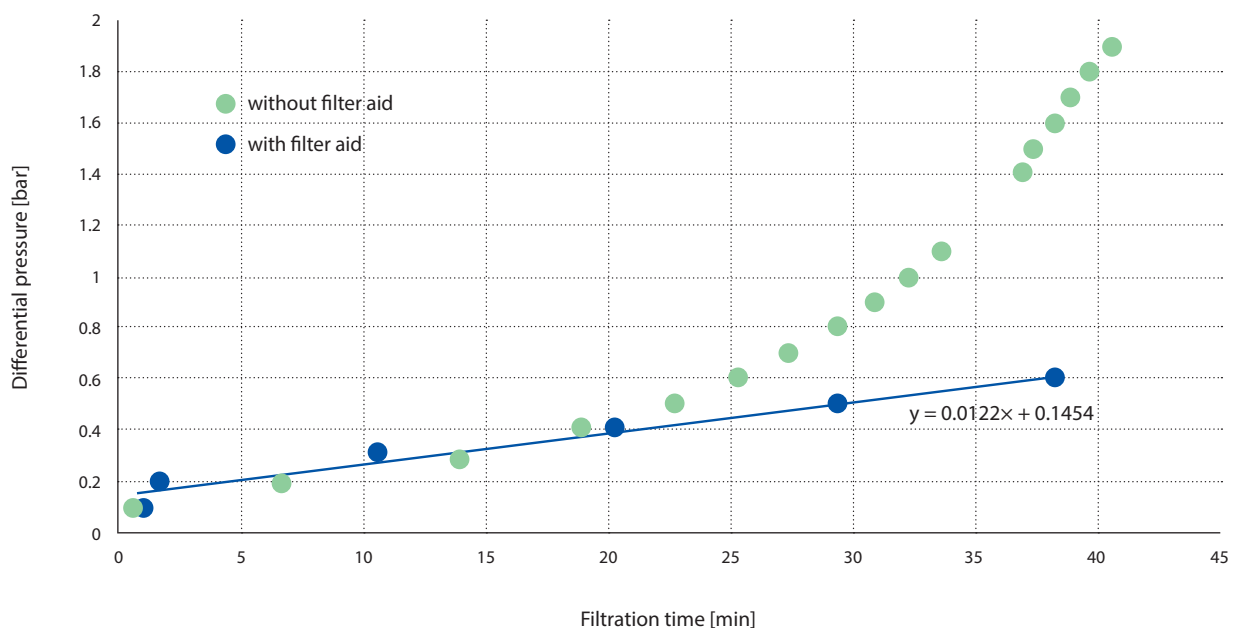

Figure 2: Increase of differential pressure during filtration without and with the addition of filter aid
Why is the use of filter aid necessary? Standard depth filters can no longer handle the higher and higher cell titers ( $>10^8$  cells/ml) in fermentation broths. By using a filter aid such as diatomaceous earth (e.g. Celpure®) the filtration volume per filter area can be increased up to 4-fold (see figure 2). The filter aid is suspended in the fermentation broth or in buffer/water and then washed onto the FILTRODISC™ BIO SD modules to form a filter cake. When doing this, the filter sheet (e.g. PURAFIX® CH 09P) in the modules, themselves function not as filters, but merely as a support for the filter cake, which is where the actual slurry removal takes place.
1. *Extension of filtration volume per area:* Due to the formation of the filter cake the filtration volume per filter area can be extended greatly, in some cases up to 4-fold (figure 2).